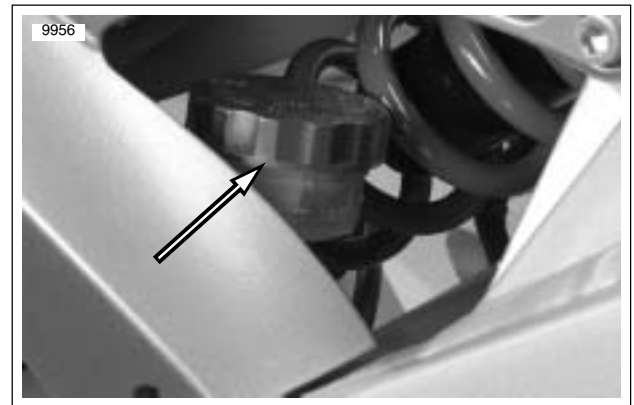

Figure 1-10. Rear Master Cylinder Reservoir
2. See Figure 1-10. Remove cap and gasket from rear master cylinder reservoir.